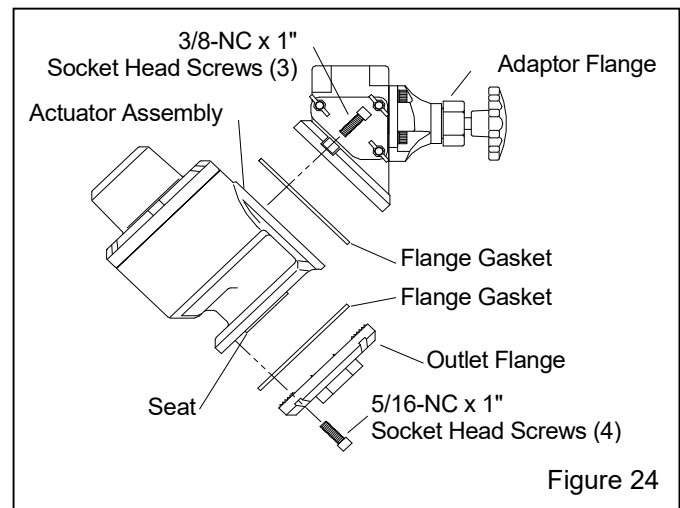

Figure 24
8.12.2.4 Refer to Figure 24 and remove the screws securing the adaptor flange and the outlet flange to the actuator assembly, and then remove the actuator assembly.